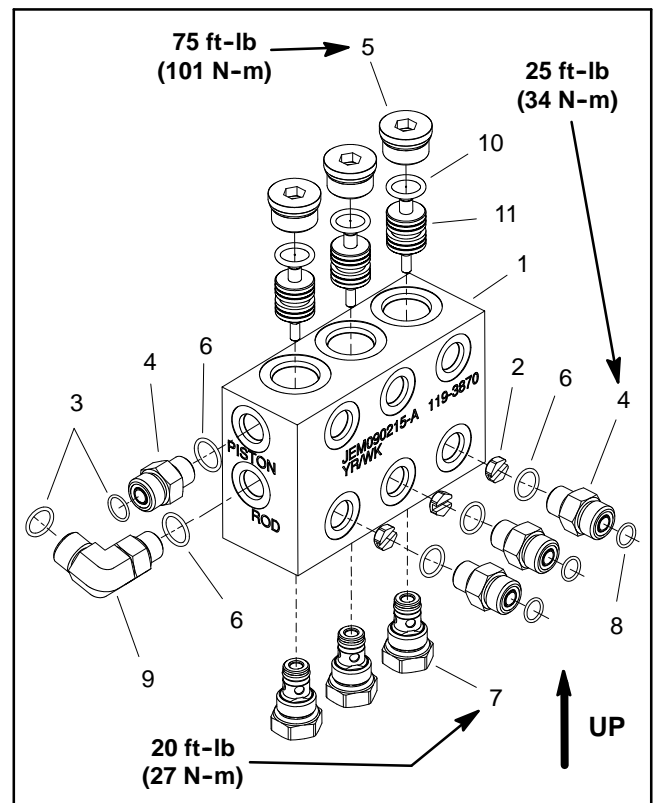

Figure 92
IMPORTANT: A flow control orifice is placed beneath several of the hydraulic fittings on the lift circuit junction manifold (Fig. 92). If a fitting is removed from the lift junction manifold and an orifice is in the manifold port, make sure to remove orifice and label its position for assembly purposes. Also note location of groove in orifice for assembly purposes.
6. If necessary, remove fittings from manifold and discard O-rings (Fig. 92).
1. If fittings were removed from junction manifold, lubricate and place new O-rings onto fittings. Install fittings into manifold openings making sure that orifice is correctly placed before threading fitting into manifold. Tighten fittings (see Hydraulic Fitting Installation in the General Information section of this chapter). Refer to Figure 92 for fitting installation torque.